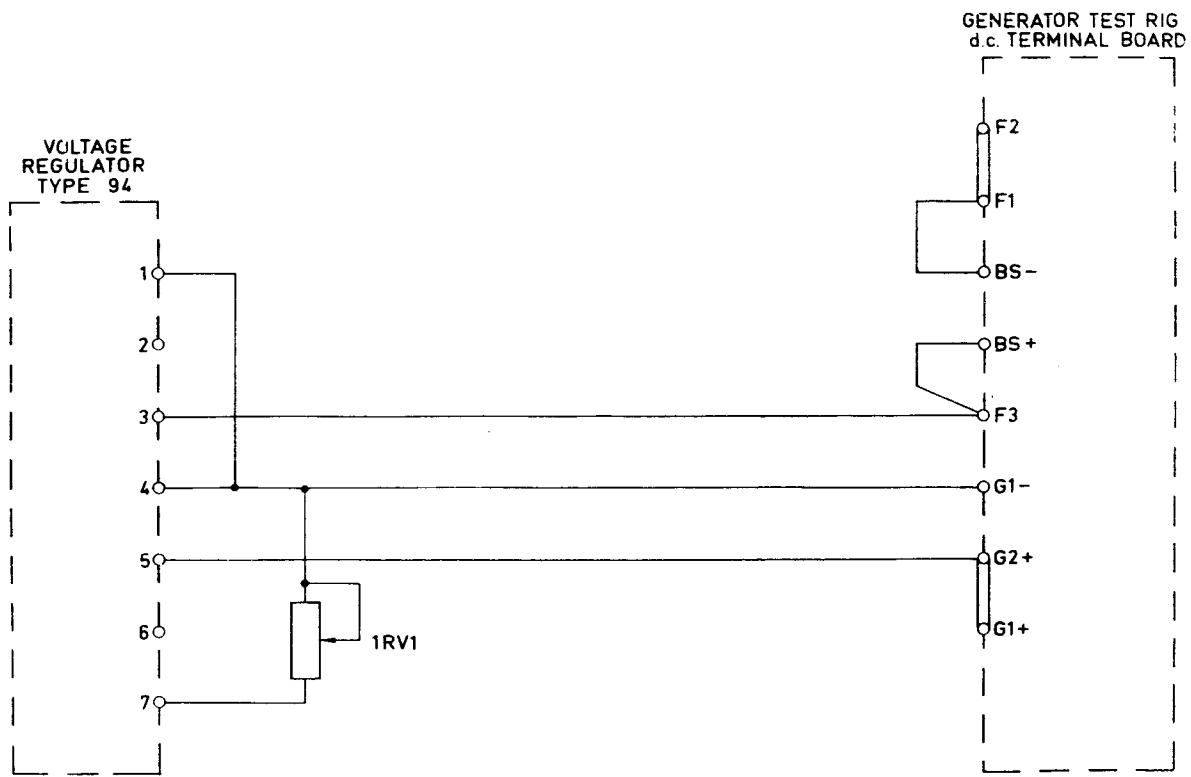

Fig. 2 Connections to control console
11. (1) Connect a Type 94 regulator (ref. para. 3) to the test rig d.c. terminal board as shown in fig. 2.